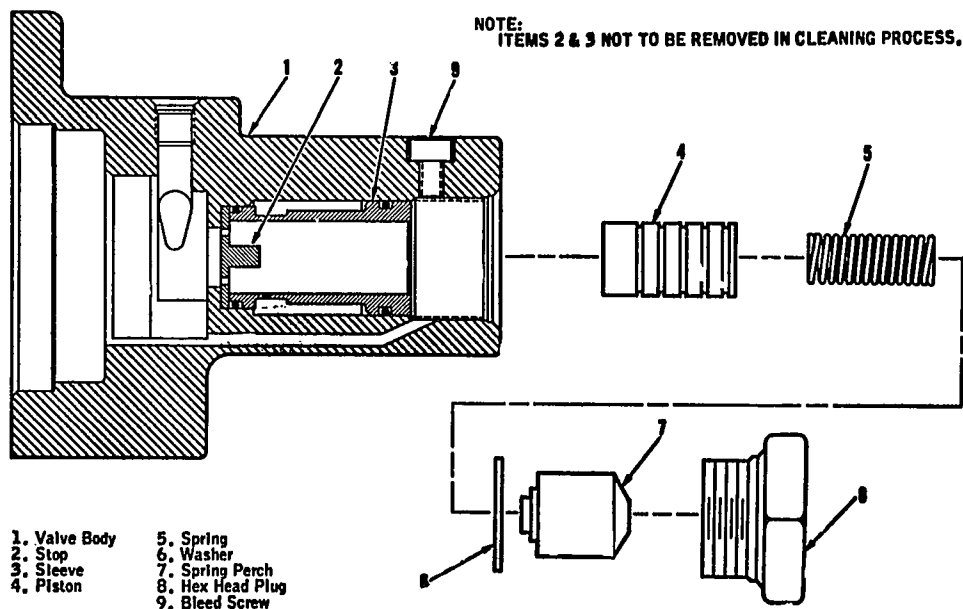

Figure 2. Fuel Control Differential Pressure Valve Assembly
15.4 See Figure 2. Place rags around the Fuel Control Differential Pressure Valve. Remove Bleed Screw from the top of the assembly taking care not to damage the "O" ring. Hold PURGE/PRIME Switch S1 to PURGE. Again the engine will crank and the boost pump will operate. Allow the system to bleed until completely free of bubbles. Replace bleed screw taking care not to damage "O" ring and release PURGE/PRIME Switch S1 to center OFF position. Clean up any spilled fuel.